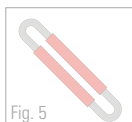

Fig. 5
The protective sleeve NoCut® made of HPME fibres is simply slid over the round sling and placed against the sharp edge of the load to protect the lifting gear. The fabric-reinforced sleeve can also be fitted by the user as shown in Figure 3. On request, the single legs of a round sling can also be fitted with NoCut® sleeve at the factory as shown in Figure 5.
**i** Special designs available on request. Protective sleeves can also be fitted by the user as shown in Fig. 3. Fitting by the factory as shown in Fig. 5 on request.